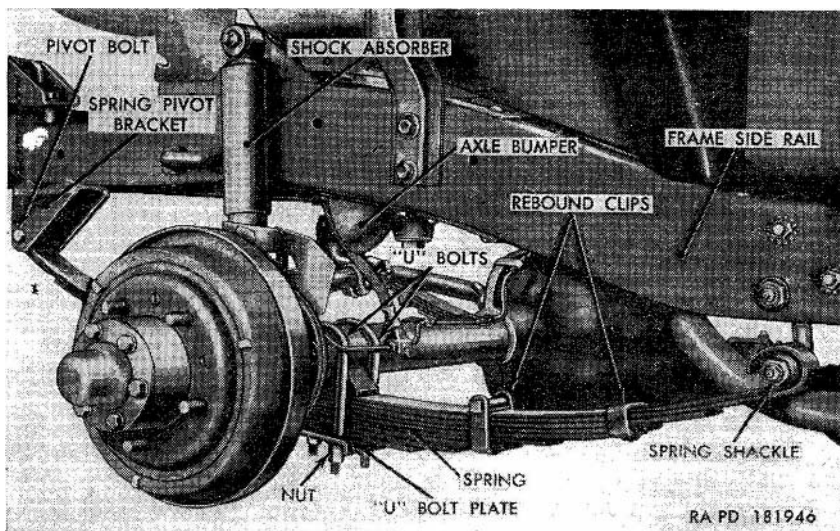
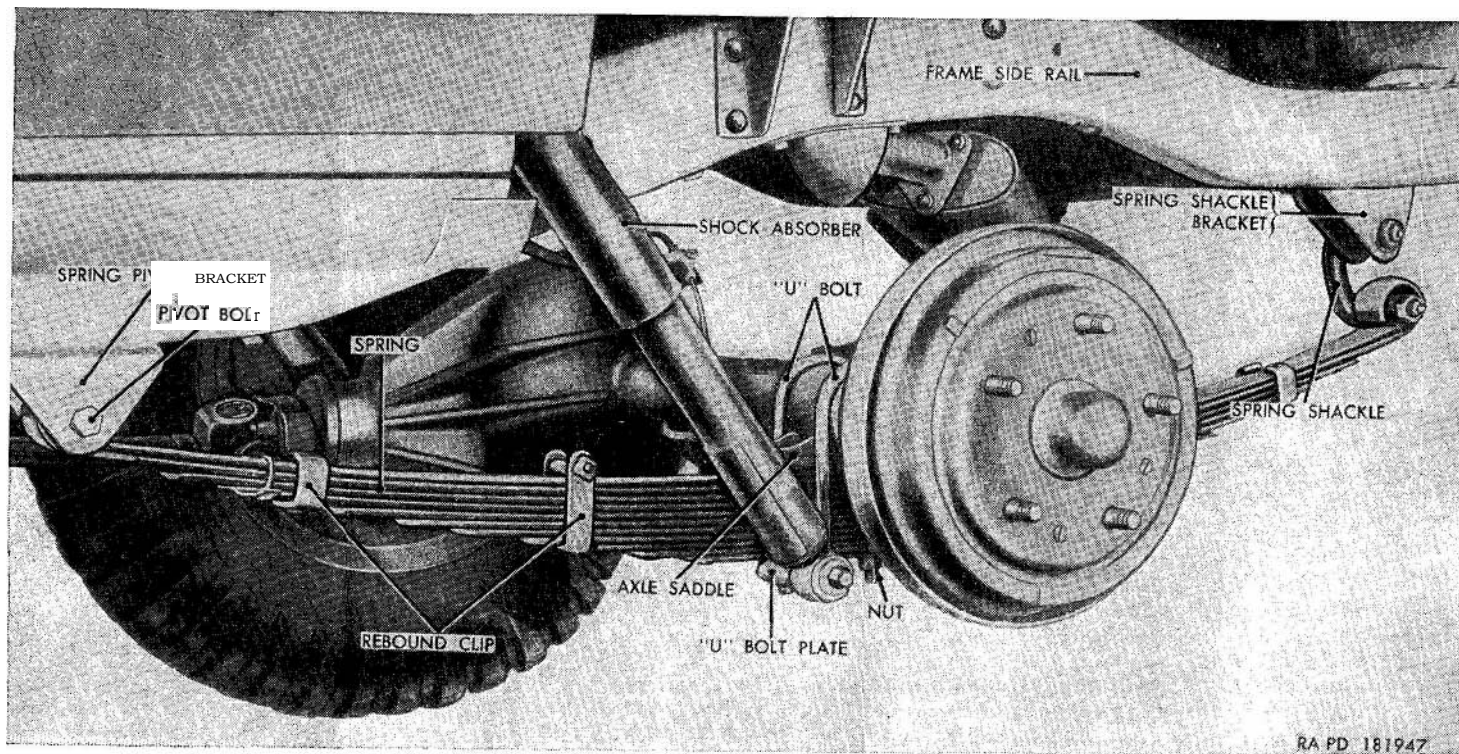
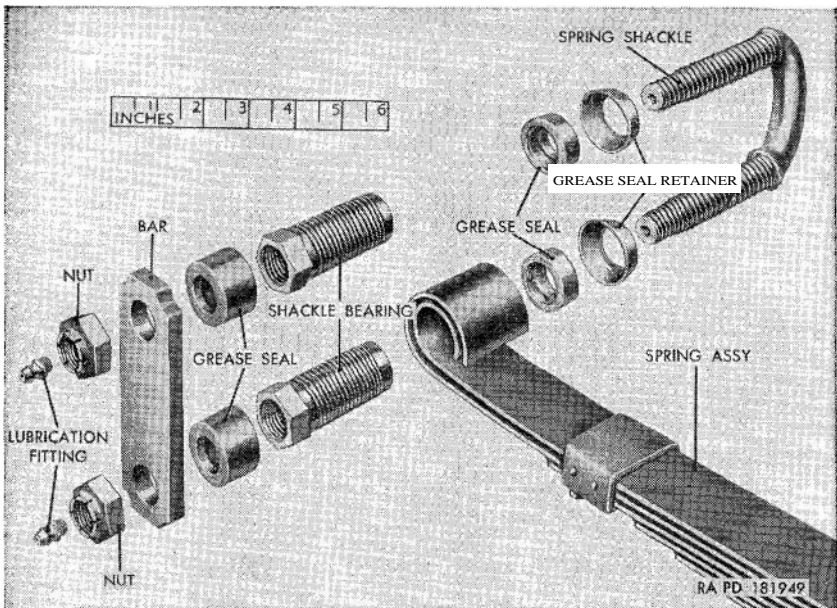
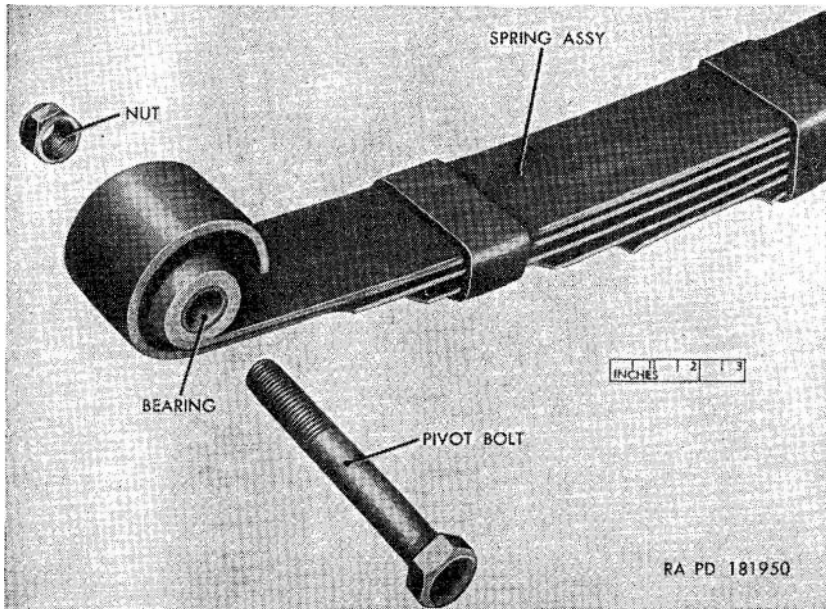

Figure 164. Front spring assembly and shock absorber—installed—wheel removed.
Figure 165. Rear spring assembly and shock absorber—installed—wheel removed.
Figure 167. Spring shackle end of spring and spring shackle (M170)—exploded view.
Figure 168. Pivot bolt end of spring—exploded view pivot bolt and nut removed.
*a. Description.* Both the front and rear spring assemblies (figs. 164 and 165) are of the semielliptic-type with wrapped eyes on the two top leaves. The front spring is a 12 leaf spring and the rear spring is a 13 leaf spring. One center bolt and six rebound clips secure the spring leaves of each spring assembly. Each spring assembly is suspended lengthwise from the frame by a shackle at the rear and a pivot bolt at the front. The pivot bolts ride in bushing-type eye bearings while the shackles are mounted in internally and externally threaded bushing-type shackle bearings. U-Bolts secure each spring assembly to its respective axle. Four hydraulic, double-action shock absorbers are used to control the spring action when flexing. The shock absorbers, mounted to the frame and U-bolt plates, are nonadjustable and nonrefillable.
- (1) Remove the lock nut and flat washer securing the lower end of the shock absorber (*fig. 165*) to the U-bolt plate. Pull the lower end of shock absorber and the two mounting pin bushings off the shaft of the U-bolt plate. Remove the two bushings out of the end of the shock absorber.
- (2) Raise the vehicle frame until both tires clear the ground. Using safety stands or suitable blocking, support the vehicle
*Note.* The left-hand thread on the bushing-type shackle bearing is identified by a groove in its hexagon head. The left-hand thread on the shackle is identified by a boss on the shoulder of the shackle at the base of the thread. See Note in a (3) above for correct location.
- (1) Slip a grease seal retainer and a grease seal over each of the shackle threads, with the cupped side of the retainers toward the shackle ends.
- (2) Insert the shackle ends into the inner side of the spring assembly and the inner side of the frame side rail (for front spring) (fig. 164) or spring shackle bracket (for rear spring) (fig. 165) and push the shackle in until the ends are almost protruding from the spring eye and frame side rail or spring bracket.
- (4) Install one mounting pin bushing, with the taper facing out, on the U-bolt plate shaft. Install the lower end of the shock absorber assembly (fig. 165) on the U-bolt plate shaft. Install another mounting pin bushing, with the taper facing in, on the U-bolt plate shaft. Seat the two bushings in the hole in the shock absorber end. Secure the shock absorber to the U-bolt plate with one  $\frac{1}{2}$ -inch ID flat washer and  $\frac{7}{16}$ -inch locknut. Tighten nut until a slight bulge is noted in the bushings.
- (5) Remove the safety stands or blocking, and lower vehicle to ground.
- (1) Remove the locknut and the flat washer securing the lower end of the shock absorber (fig. 165) to the U-bolt plate. Pull the lower end of the shock absorber and the two mounting pin bushings off the shaft of the U-bolt plate. Remove the two bushings out of the eye of the shock absorber.
- (2) Remove the cotter pin and unscrew the nut from the upper end of the stabilizer bar link from the U-bolt plate-to-stabilizer and remove the cup washer and the grommet.
- (3) Raise the vehicle frame until both tires clear the ground. Using safety stands or suitable blocking, support the vehicle
- (4) Remove the nuts securing the side plate to the spring shackle and remove the plate and the grease seals. Unscrew and remove the bushing-type shackle bearings (fig. 167).
- (5) Pull the spring shackle, with grease seals and grease seal retainers, from the eye of the spring assembly and frame side rail (for front spring) or spring bracket (for rear spring).
- (6) Slip the grease seals and the grease seal retainers off the shackle. Remove the lubrication fittings from the shackle.
- (1) Slip a grease seal retainer and a grease seal in the order named over each of the shackle threaded parts. Start the small inside diameter of the retainers on the shackle.
- (2) Insert the shackle ends into the inner side of the spring assembly and the inner side of the frame side rail (for front spring (fig. 164) ) or the spring bracket (for the rear spring (fig. 165)) and push the shackle in until the ends are almost protruding from the spring eye and frame side rail or spring bracket.
- (3) Insert the bushing-type shackle bearings into the spring eye and frame side rail or bracket and start the bearings onto the shackle before the bearings start threading into the eye or frame side rail or spring bracket. Take up on both bearings equally until they are tight. Back off the lower bearing about one thirty-second inch (one-third of a turn).
- (4) Place a grease seal over the hex head of each bearing. Slide the side plate over the shackle ends and secure with two nuts. Install the lubrication fittings in the shackle end.
- (5) Raise the axle assembly with the jack until the upper end of the link between the U-bolt plate and the stabilizer bar enters the hole in the bar end. Install a grommet and a cup washer over the link end. Secure the link grommet and washer to the bar with a nut and cotter pin.
- (6) Install one mounting pin bushing, with the taper facing out, on the U-bolt plate shaft. Install the lower end of the shock absorber assembly (fig. 165) on the shaft. Install another mounting pin bushing, with the taper facing in, on the shaft. Seat the two bushings in the eye on the shock absorber end. Secure the shock absorber to the shaft with one  $\frac{1}{2}$ -inch ID flat washer and a  $\frac{7}{16}$ -inch locknut. Tighten until a slight bulge is noted in the bushings.
- (7) Remove the safety stands or blocking, and lower the vehicle to the ground.
- (1) Remove the locknut and flat washer securing the lower end of the shock absorber (fig. 165) to the U-bolt plate. Pull the lower end of shock absorber and the two mounting pin bushings off the U-bolt plate shaft. Remove the two bushings out of the hole in the shock absorber end.
- (2) Raise the vehicle frame until both tires clear the ground. Using safety stands or suitable blocking, support the vehicle weight. Place a jack under the axle housing and adjust the jack height, as necessary, to take the tension off the spring.
- (3) Unscrew the safety nut (fig. 168) from the pivot bolt. Withdraw the bolt from the spring pivot bracket and the bushing-type eye bearing in the spring eye. It may be necessary to drive the bolt out of the eye bearing with a suitable drift pin.
- (1) Adjust the jack height beneath the axle housing, as necessary, to align the hole in the bushing-type eye bearing in the spring eye with the holes in the spring pivot bracket (figs. 164 and 165). Insert the  $\frac{7}{16}$  x 3 pivot bolt (fig. 168) through
- (2) Install one mounting pin bushing, with the taper facing out, on the U-bolt plate shaft. Install the lower end of the shock absorber assembly on the U-bolt plate shaft. Install another mounting pin bushing, with the taper facing in, on the U-bolt plate shaft. Seat the two bushings in the hole in the shock absorber end. Secure the shock absorber (fig. 165) to the
- (1) Remove the spring shackle (par. 242a).
- (2) Remove the pivot bolt (par. 244a(3)).
- (3) While supporting the spring assembly, remove the four U-bolt nuts (figs. 164 and 165) and lockwashers securing the two U-bolts to the U-bolt plate and remove the plate from beneath the spring. Lift the U-bolts off the axle housing. Remove the spring assembly from beneath the vehicle.
- (5) Install one mounting pin bushing, with the taper facing out, on the U-bolt plate shaft. Install the lower end of the shock absorber assembly on the U-bolt plate shaft. Install another mounting pin bushing, with the taper facing in, on the U-bolt plate shaft. Seat the two bushings in the hole in the shock absorber end. Secure the shock absorber (fig. 165) to the U-bolt plate with one  $\frac{1}{2}$ -inch ID flat washer and  $\frac{7}{16}$ -inch locknut. Tighten nut until a slight bulge is noted in the bushings.